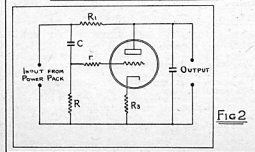

Fig 2
Fig. 2 shows a modification suitable for, say a laboratory power-pack which may be used on various fixed loads without further adjustment. The performance is independent of the load, but this is at the expense of voltage regulation. R_1 should now have a value of $1/g_m$ plus $83 (1 \text{ plus } 1/u)$. Using an MH4, R_3 can be 750 ohms, and R_1 will have to be 1,070 ohms. But again, for best results, adjustment should be made by the use of a cathode ray oscilloscope. The resistance (R) is included to limit grid current when the load is suddenly increased; it can be 50,000 ohms. The voltage regulation is made worse by about 1 volt for every mA in the load.